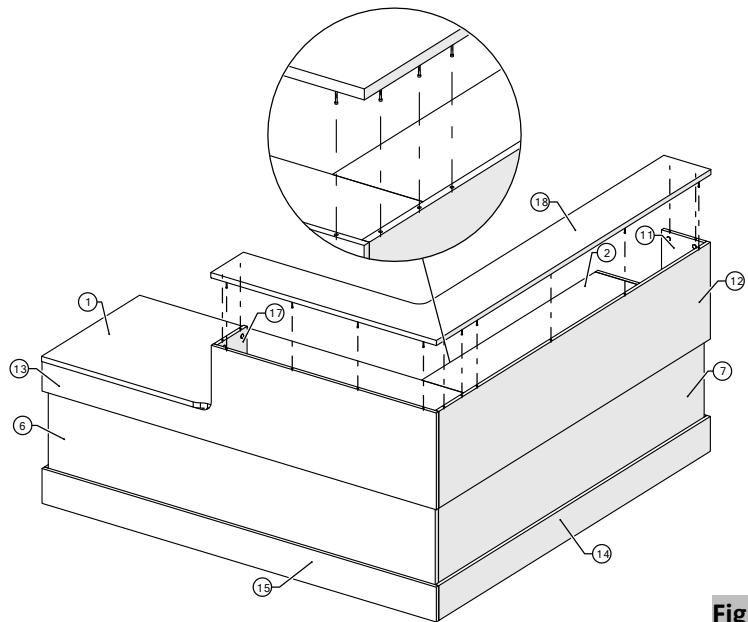

Figure 33
30. Connect the countertop to the countertop gable, border-gable LH, border-upper front, and border-upper return and press tightly together by inserting the combi dowels into the top holes (Figure 33).